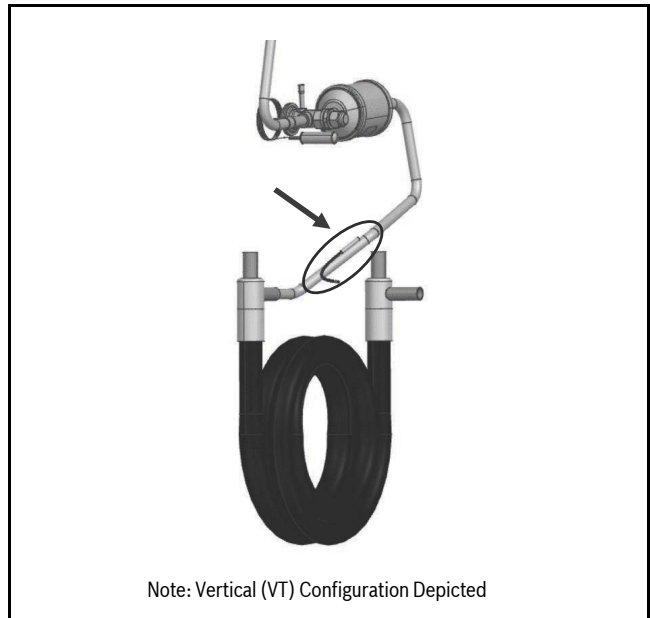
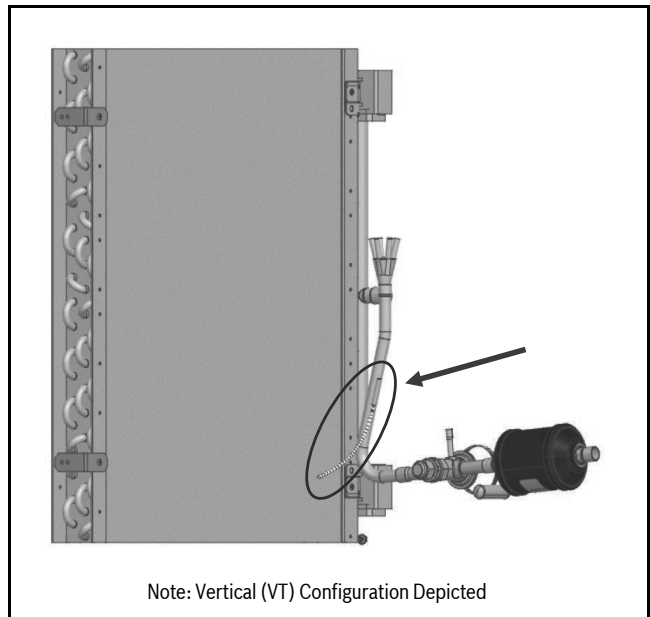
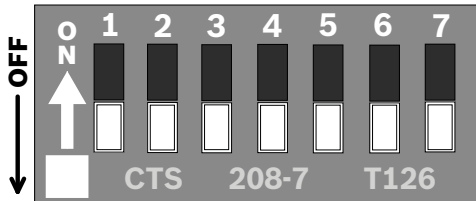

Fig. 19 Waterside Freeze Protection Sensor Location (FREEZE 1)
Fig. 20 Air Coil Freeze Protection Sensor Location (FREEZE 2)
Fig. 21 UPM Settings DIP Switch (SW1)
- Waterside freeze protection sensor (FREEZE 1), mounted close to condensing water coil (→Refer to Fig. 19), monitors refrigerant temperature between condensing water coil and thermal expansion valve. If temperature drops below or remains at freeze limit trip for 120 seconds, the controller will shut down the compressor and enter into a soft-lockout condition. The default freeze limit trip is 25°F; however, this can be changed by flipping DIP switch SW1. (→Refer to Fig. 18, item [10].)(→Refer to Fig. 21.)
- Air coil freeze protection sensor (FREEZE 2), mounted between the thermal expansion device and the air coil (→Refer to Fig. 20), monitors refrigerant temperature between the air coil and thermal expansion valve. If temperature drops below or remains at the freeze limit trip for 30 seconds, the controller will shut down the compressor and enter into a soft-lockout condition. The default freeze limit trip is 25°F.
- **TEST DIP SWITCH:** The DIP switch position “4” controls the Test function. When it is set to “ON,” it will reduce all time delays settings to 10 seconds during troubleshooting or verification of unit operation. (→Refer to Fig. 18, item [10].) (→Refer to Fig. 21.) (→See Table 9.)
- **LOW-PRESSURE BYPASS TIMER:** If the compressor is running and the low-pressure switch opens, the controller will keep the compressor ON for 120 seconds. After two minutes if the low-pressure switch remains open, the controllers will shut down the compressor and enter a soft lockout. The compressor will not be energized until the low-pressure switch closes and the anti-short cycle time delay expires. If the low-pressure switch opens two or four times in one hour, the unit will enter a hard lockout. In order to exit hard lockout power to the unit would need to be reset. The reset signal is either a Y or R signal depending on if DIP switch position “2” is set to ON or OFF. (→Refer to Fig. 21.) (→See Table 9.) If it set to ON, the board must be manually powered OFF and powered back ON to exit the hard lock out.
- **MALFUNCTION OUTPUT:** Alarm output is Normally Open (NO) dry contact. If pulse is selected the alarm output will be pulsed. The fault output will depend on the DIP switch setting for "ALARM." (→Refer to Fig. 21.) (→See Table 9.) If DIP switch position “3” is set to “ON,” a constant signal will be produced to indicate a fault has occurred and the unit requires inspection to determine the type of fault. If it is set to “OFF,” a pulse signal is produced and a fault code is detected by a remote device indicating the fault. (→For blink code explanation, see Table 10.) The remote device must have a malfunction detection capability when the UPM board is set to "PULSE."
- FREEZE SENSOR:** The default setting for the freeze limit trip is 25°F (FREEZE 1); however, this can be changed to 15°F by flipping the DIP switch position “5” (→Refer to Fig. 18, item [10]) (→Refer to Fig. 21), freeze limit trip should only be changed to 15°F when a closed loop system with appropriate antifreeze mixture is used. **Since Freeze Sensor 2 is dedicated to monitoring the load side coil, it is recommended to leave the factory default setting on the board.** The UPM controller will constantly monitor the refrigerant temperature with the sensor (FREEZE 1) mounted close to the condensing water coil between the thermal expansion valve and the water coil. If the temperature drops below or remains at the freeze-limit trip for 120 seconds, the controller will shut the compressor down and enter into a soft-lockout condition. Both the status LED and the alarm contact will be active. The status LED will be active, blinking the fault code. The LED will flash (three times) the code associated with this alarm condition. If this alarm occurs two times (or four if DIP switch position “1” is set to “ON”) within an hour, the UPM controller will enter into a hard-lockout condition. It will constantly monitor the refrigerant temperature with the sensor (FREEZE 2) mounted close to the air coil between the thermal expansion valve and air coil, as shown in Fig. 20. If the temperature drops below or remains at the freeze limit trip for 120 seconds, the controller will shut the compressor down and enter into a soft-lockout condition. Both the status LED and the alarm contact will be active. The status LED will be active,
blinking the fault code. The LED will flash six times the code associated with this alarm condition. If this alarm occurs two times (or four times if DIP switch position “1” is set to “ON”) (→Refer to Fig. 21) (→See Table 9) within an hour, the controller will enter into a hard-lockout condition.
- INTELLIGENT RESET:** If a fault condition is initiated, the five-minute delay on break time period is initiated and the unit will restart after these delays expire. During this period the fault LED will indicate the cause of the fault. If the fault condition still exists or occurs two or four times (depending if the Lockout DIP switch position “1” is set to “OFF” or “ON”) (→Refer to Fig. 21) (→See Table 9) before 60 minutes, the unit will go into a hard lockout and requires a manual lockout reset.
- To clear a hard lockout when the DIP switch position “2” is set to “OFF” (Y), power can be cycled OFF then back ON either at the unit’s thermostat or at the circuit breaker.
- To clear a hard lockout when the DIP switch position “2” is set to “ON” (R), power must be cycled OFF then back ON at the circuit breaker (not at the thermostat).
(→Refer to Fig. 21.) (→See Table 9.)
- PUMP DIP SWITCH:** When DIP switch position “7” is set to “ON” and no Y call has been received in the past 8 hours, the compressor will have a delay of 30 seconds to allow a loop pump to circulate water before compressor starts. (→Refer to Fig. 21.) (→See Table 9.)